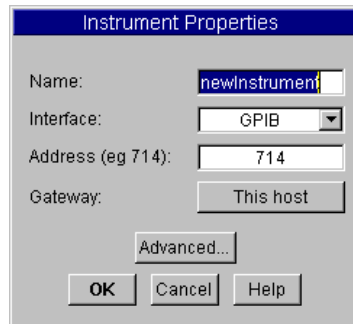

Figure 84 Instrument Properties Dialog Box
- 2 In the Instrument Manager dialog box, make sure My Configuration is highlighted, and click **Add . . .** under Instrument. The Instrument Properties dialog appears, as shown in Figure 84.